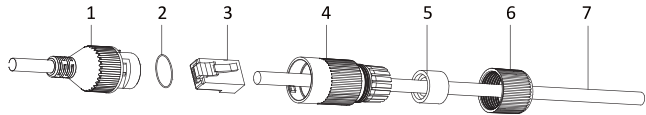

Figure 6: assembling the waterproof sheath of the LAN connector;
4. Push the cable in the mounting base and screw it on using the two supplied screws. If you want to use a grommet on the cable, put it on beforehand and then push the data cable through. Slide the connector sheath, sealing sleeve and a locking nut on the cable, see Figure 6. The last step is to take a crimping tool and press the RJ-45 connector onto the data cable.
6. Connect the RJ-45 connector to the camera. Fix the connection by a waterproof sheath with a bayonet closure (included in the accessory pack) and tighten the locking nut, see Figure 6. If the nearest router or switch used does not support the PoE function (power over Ethernet), connect the camera via the power connector to an 12 V DC / 500 mA external power supply.